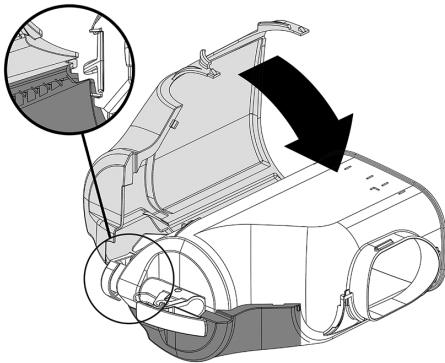
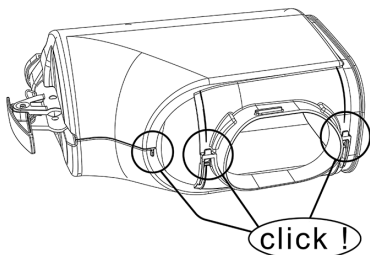

**figure 2**
**figure 3**
**1** Place the right-hand part of the recover on a surface. Place the container inside it.(see figure 2)(see figure 3).